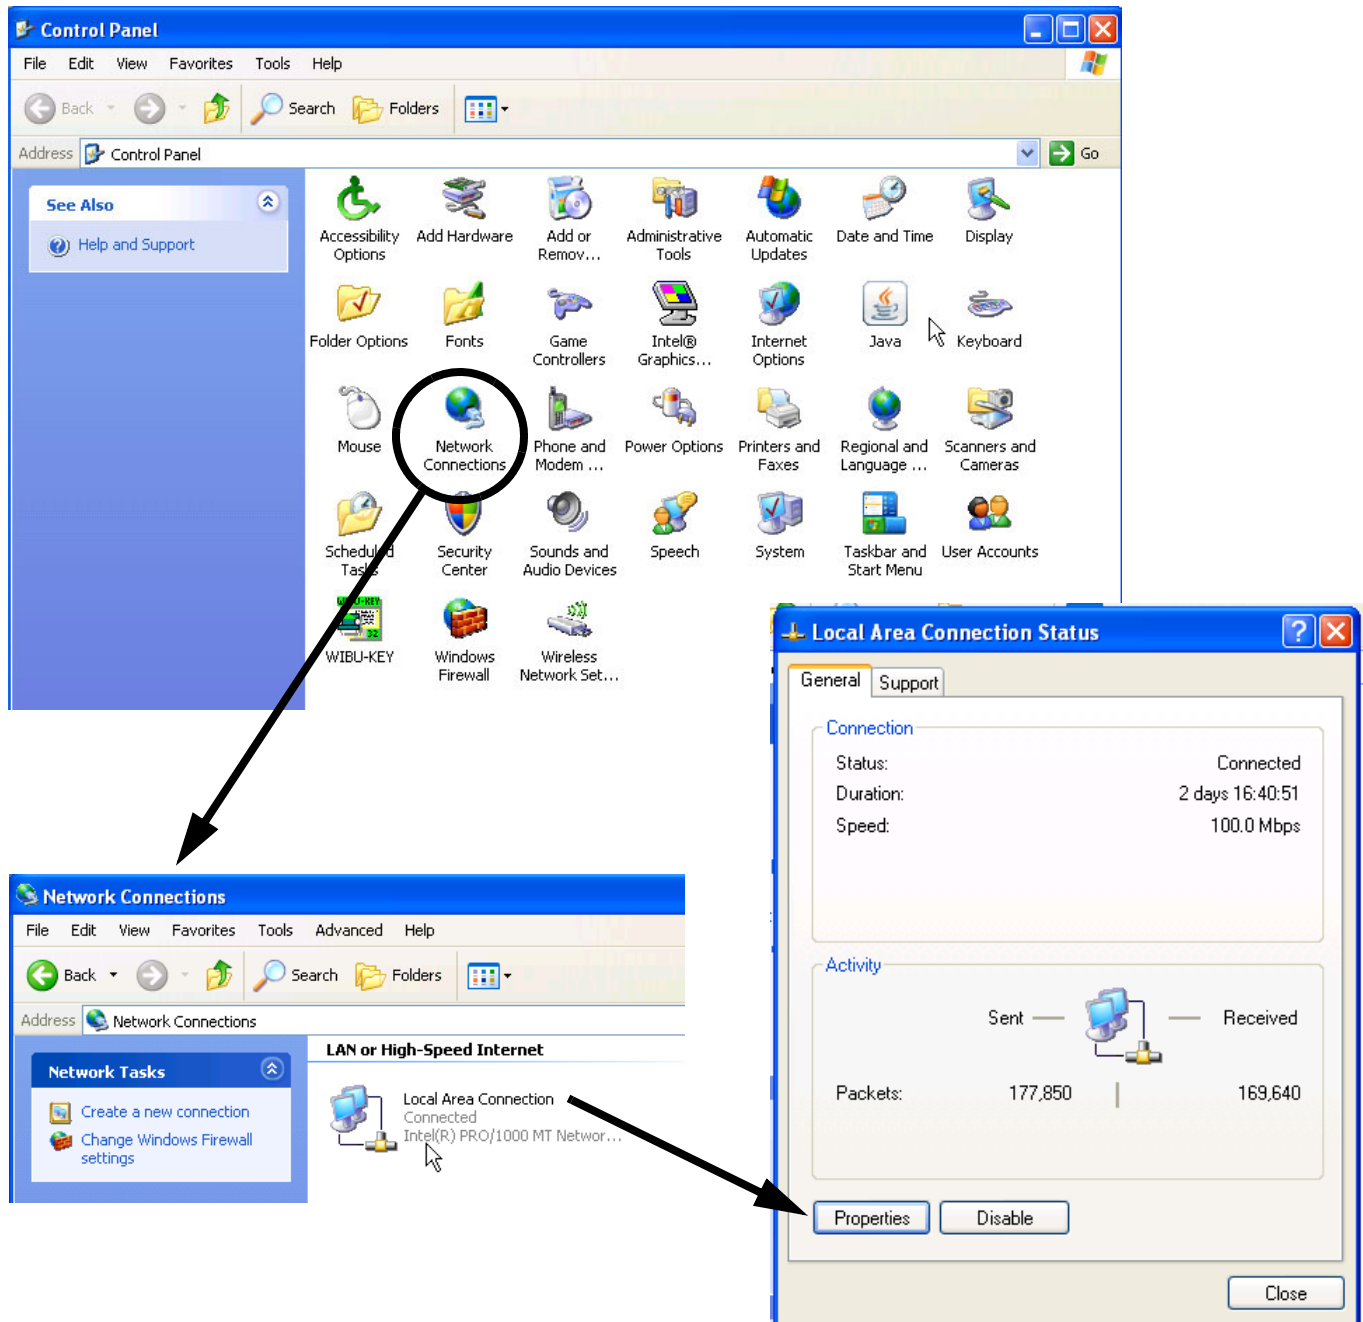
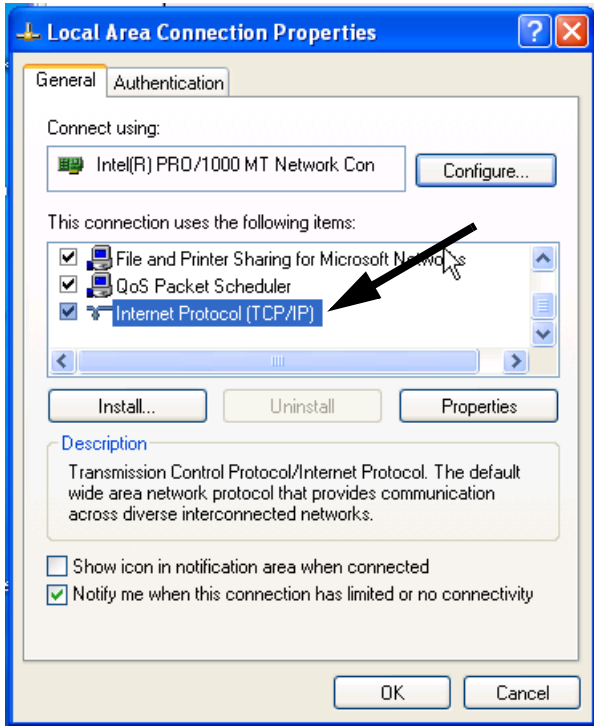

FIG. 2. Assign IP Address on Computer
FIG. 3: Local Area Connection Properties Window
b. See FIG. 2. Double click on Network Connections. Double click on Local Area Connection to open the Local Area Connection Status window. Click on Properties to open the Local Area Connection Properties window. See FIG. 3.